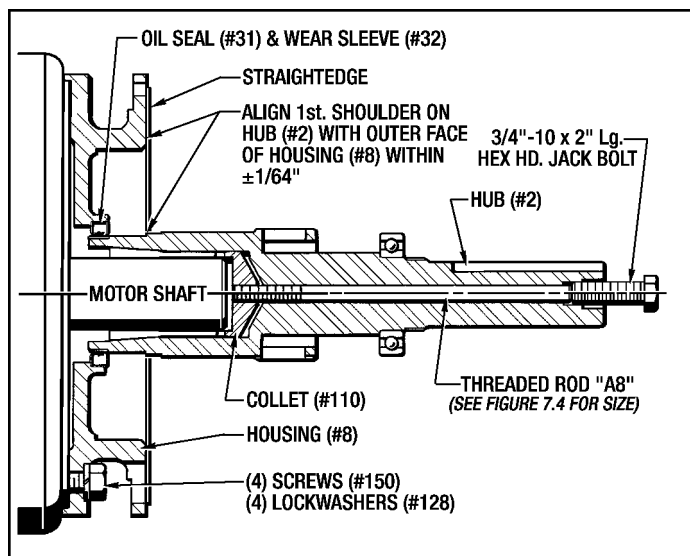

Figure 9.11 - Installing Hub (#2) on MB-320 Coupler Brake
1. Place the Collet (#110) on the motor shaft as far as it will go. (See Figure 9.11)
4. Using a steel straight edge, align the **1st. Shoulder** of the Hub (#2) with the **Outer Face** of Housing (#8) within  $\pm 1/64"$  as shown in Figure 9.11.
5. Install the correct Threaded Rod into the Collet (#110) approx. 4 or 5 turns. **Hand tighten** the Jack Bolt into the end of the Hub (#2) just until it makes contact with the Threaded Rod. **Do not tighten any further.** (See Figure 9.11 below.)